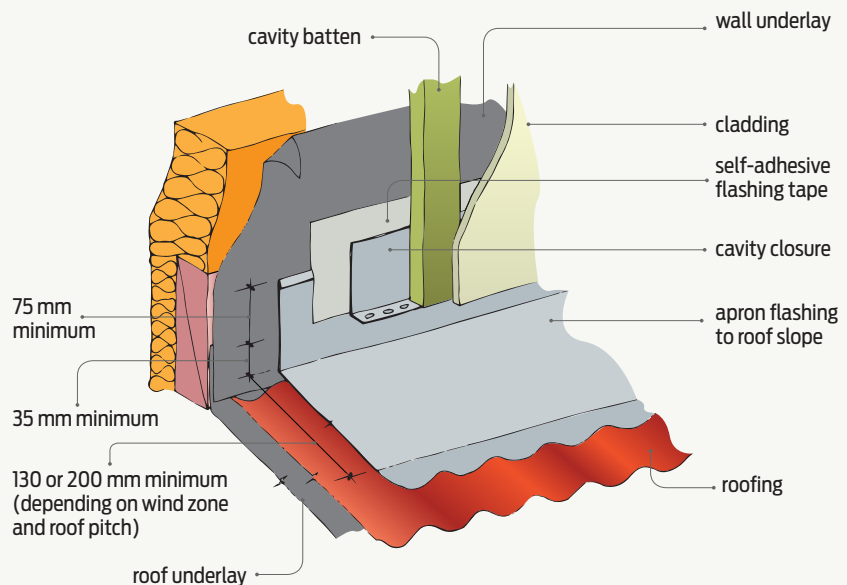

Figure 1 Apron flashing at roof/wall junction – horizontal flashing.
- extend over profiled metal roofing (see Figure 1) for:
- 130 mm (excluding the soft edge) in low (L), medium (M) and high (H) wind zones where the roof pitch is 10° or more – E2/AS1 Table 7, Situation 1
- 200 mm (excluding the soft edge) for all roof pitches in Very High (VH) and Extra High (EH) wind zones – E2/AS1 Table 7, Situation 3